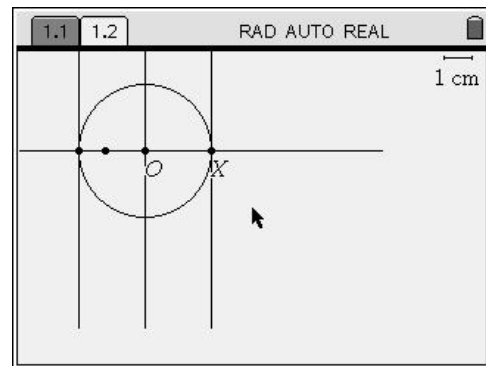

Figure 10
10. Move the cursor to point X until the text reads, “point X”. Press enter . Move the cursor right or left until a dashed perpendicular line appears and the text reads, “line”. Press enter . Repeat this procedure to construct a perpendicular through the center point O. Finally move to the intersection of the line and the left side of the circle until the text reads, “intersection point”. Press enter . Move the cursor right or left as before until a dashed perpendicular line appears and the text reads, “line”. Press enter . There should now be 3 perpendicular lines. (Figure 10) Press esc to put the perpendicular tool away.